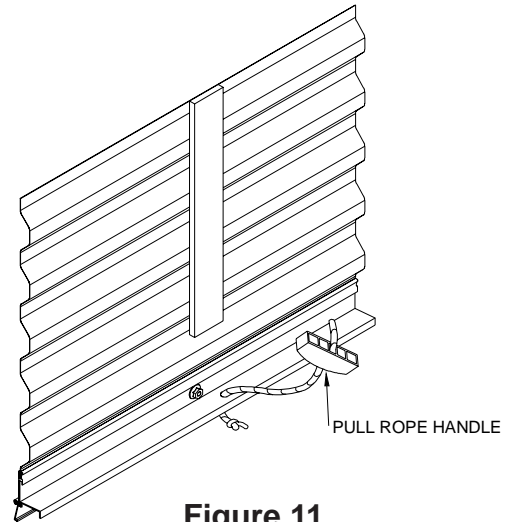

Figure 11.
9.1 Pull Rope Handle: Tie a knot in one end of the rope. Slide the plastic handle onto the rope and pull the knot up into the handle. Pass the other end of the rope through the hole in the center of the bottom edge of the door and tie another knot in the end to keep the rope from pulling through. See Figure 11.